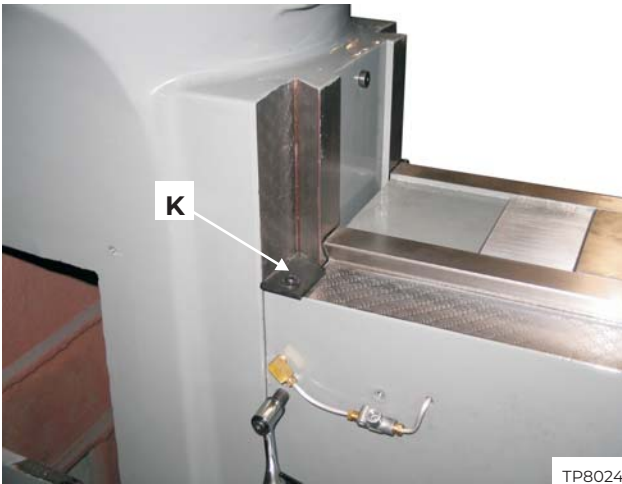
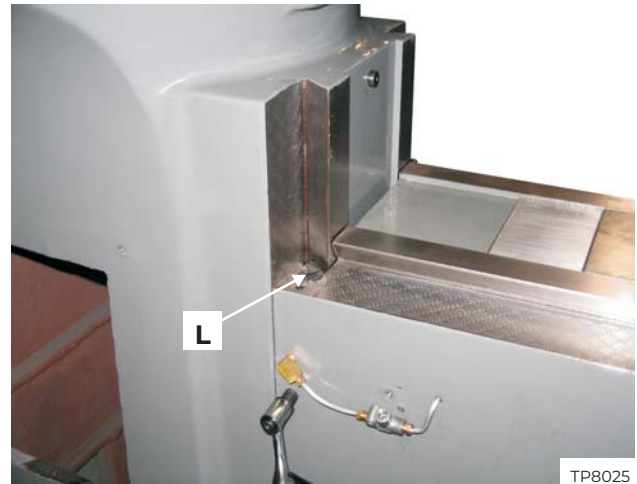

Figure 3.16 - Left Knee Wiper
Figure 3.17 - Upper
3. Remove wiper "K", Figure 3.16, to gain access to upper gib adjustment screw "L", Figure 3.17.